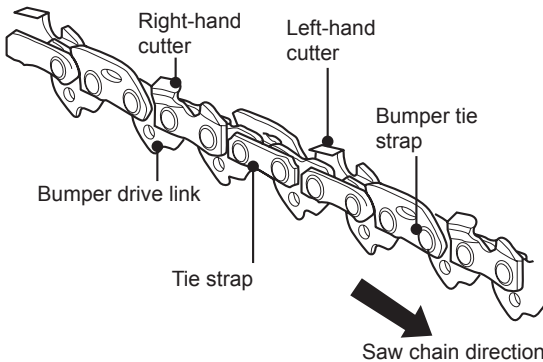

Fig. 42
1. Have the saw chain (8) sharpened professionally at an authorised service centre or sharpen the chain yourself by using a proper sharpening kit. Also observe the sharpening instructions supplied with the sharpening kit.
2. The height difference between the tooth and the ridge is the cutting depth. When sharpening the saw chain (8) you have to consider the following points (Fig. 42).